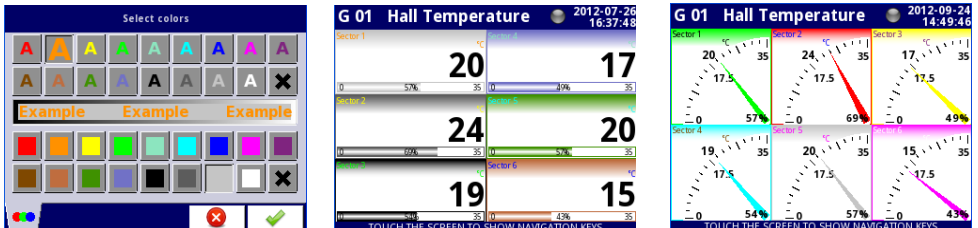

Fig. 7.127. Style color select screen and examples of views with changed styles
- **Style** – defines the color which will be used to draw the logical channel selected in this **Slot**. The user can specify the font color in the channel (except value color) and the drawing color of all elements connected with channel visualisation (see Fig. 7.127). By using black **X** buttons the user can return to default settings.